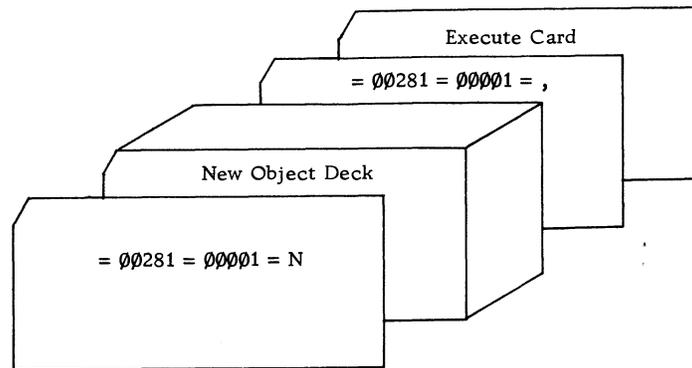

Figure 6. Substitution of a New Object Program
3. Two "Substitution" cards must be added to the new object deck. The first of these cards must be placed in front of the new object program. The second must be placed at the end of the new object program, but preceding the execute card (see Figure 6).
NOTE: If the new object program uses the same execute instruction as the program on the Test Tape, then the execute card in Figure 6 is the PAT Execute Card. But if the new program's execute instruction is different from the execute record on tape, then the execute card must be the one given by the Autocoder Processor for the new object deck.